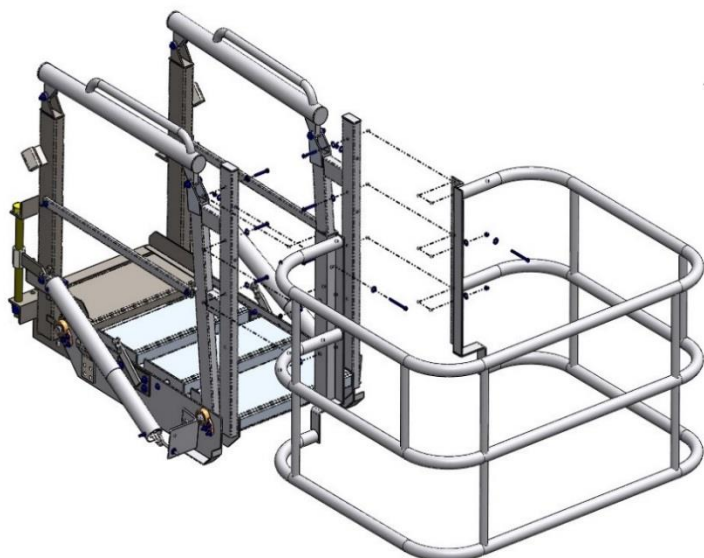

FIGURE 7-6
- i) For gangways with included safety cage options, use Carbis-supplied hardware to install the cage per **FIGURE 7-6** below.
- 4) NOTE: Gangway and cage configuration may vary from that shown in **Figure 7-6**.